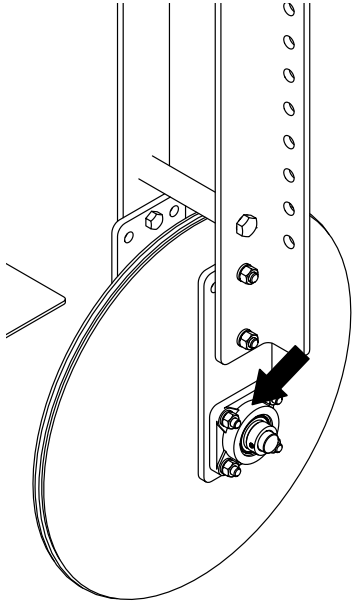

Figure 39 Guide Wheel Bearing Zerks
1. Lubricate bearing zerks on guide wheels with one shot of grease (Figure 39)